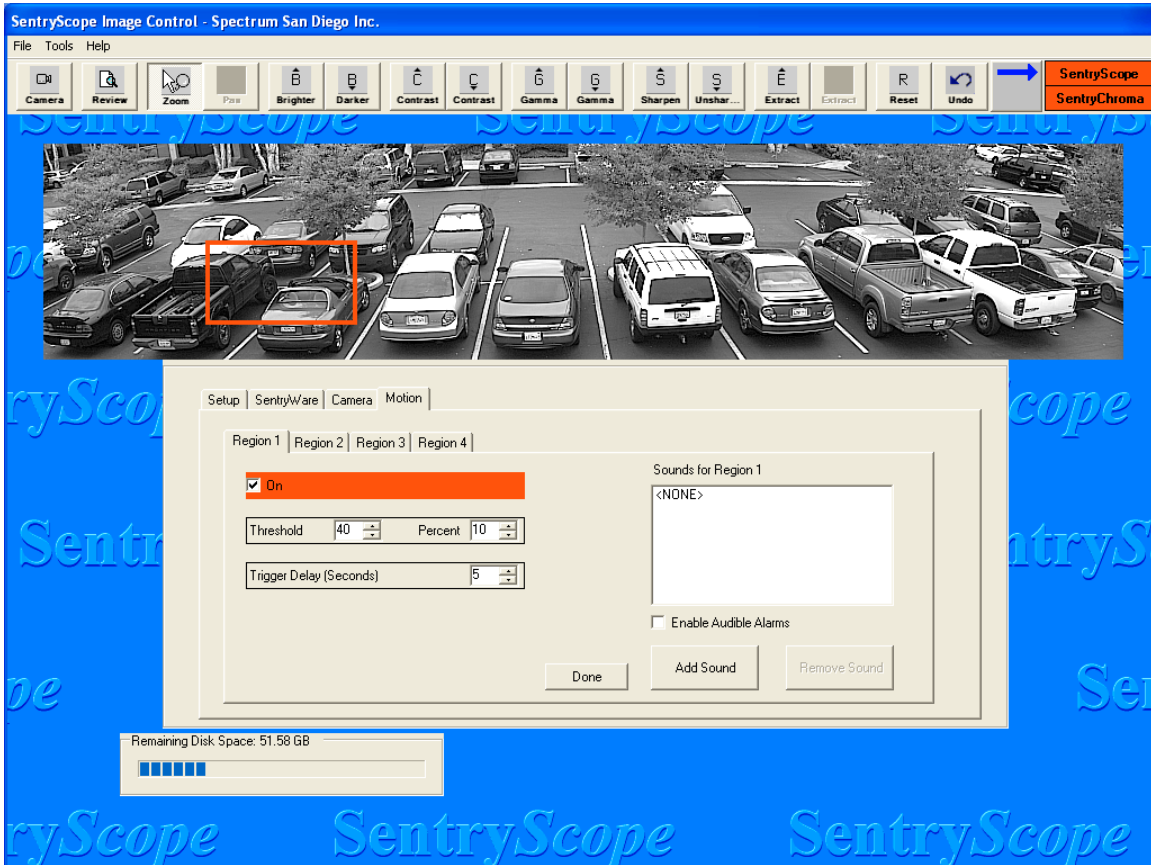
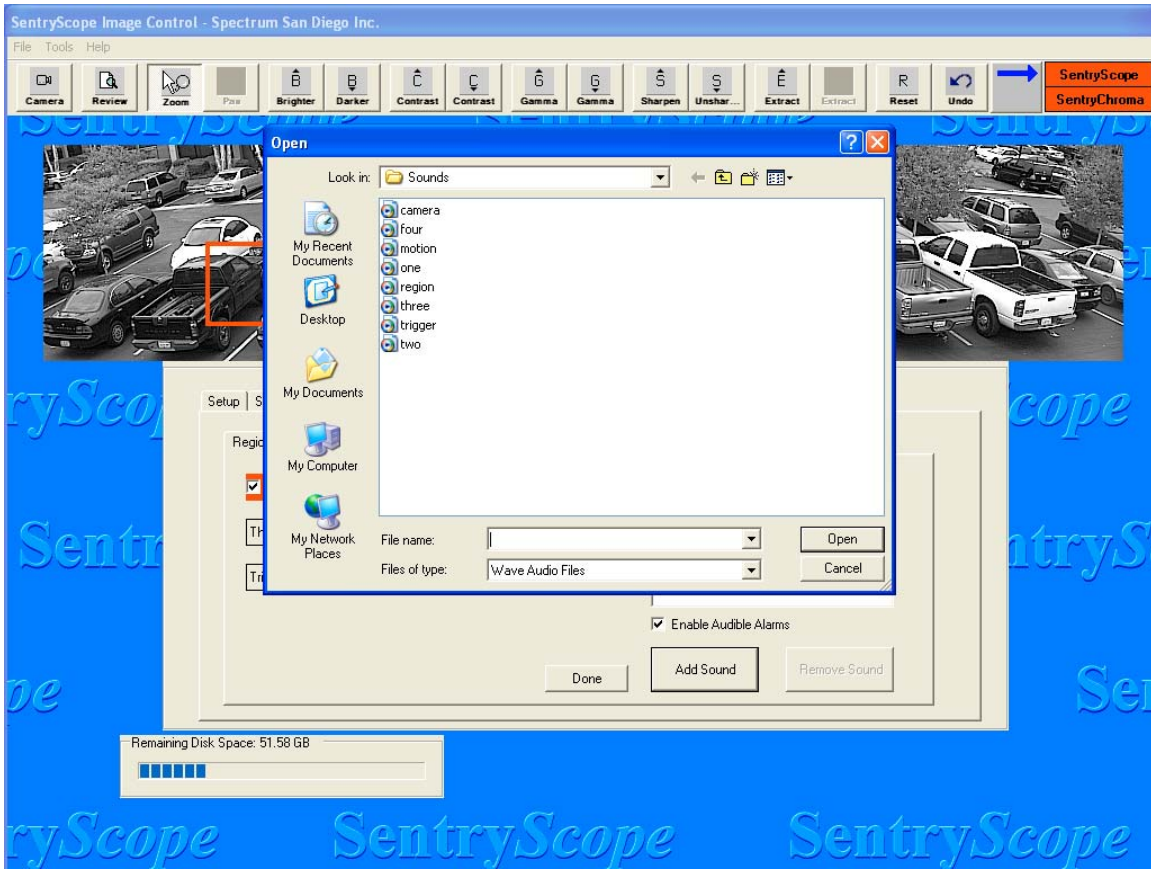

Figure 21
Figure 22
Up to four (4) regions can be defined. Click on the “Region 1” tab and then check the box marked “On” and Figure 21 below will appear:
In Figure 21, the “Enable Audio Alarms” check box is used to globally enable or disable the playing of all audio files for all motion regions or external triggers. This option will appear under each motion region. Click this box. Then press the “Add Sounds” button and Figure 22 below will appear:
Up to five (5) audio files may be associated with these events. Repeat the steps in Figures 21 and 22 as many times as necessary. The “.wav” files will be played in the order added as each motion event occurs that has audio files assigned.